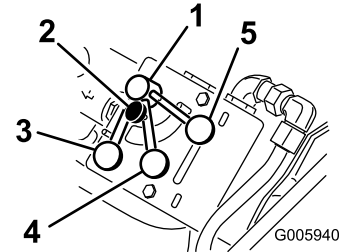

Figure 9
The traction unit hydraulics (i.e., the traction drive, loader arms, and attachment tilt) work on a separate hydraulic circuit from the auxiliary hydraulics for powering attachments; however, the 2 systems share the same hydraulic pumps. Using the flow-divider control (Figure 9), you can vary the speed of the traction unit hydraulics by diverting hydraulic flow to the auxiliary-hydraulics circuit. Therefore, the more hydraulic flow you divert to the auxiliary hydraulics, the slower the traction unit hydraulics move.
**Note:** The flow-divider control can be fixed in place by turning the knob on the control clockwise until it contacts the dial (Figure 9).